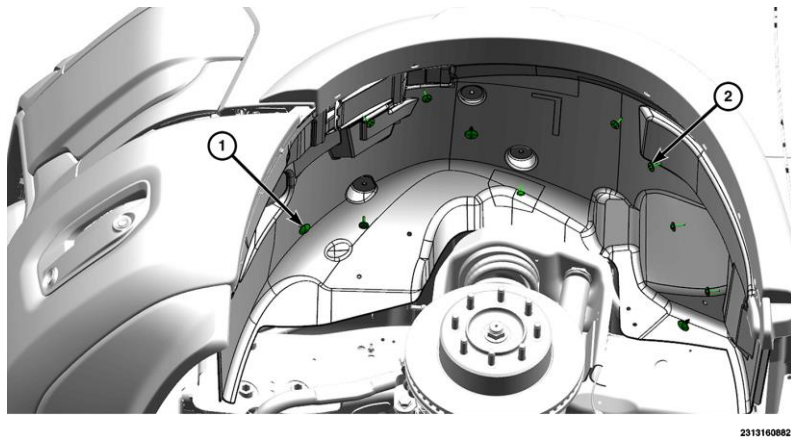

Figure 4 – Splash Shield
11. Remove the splash shield screws (2) and the push-pins (1) (Figure 4).